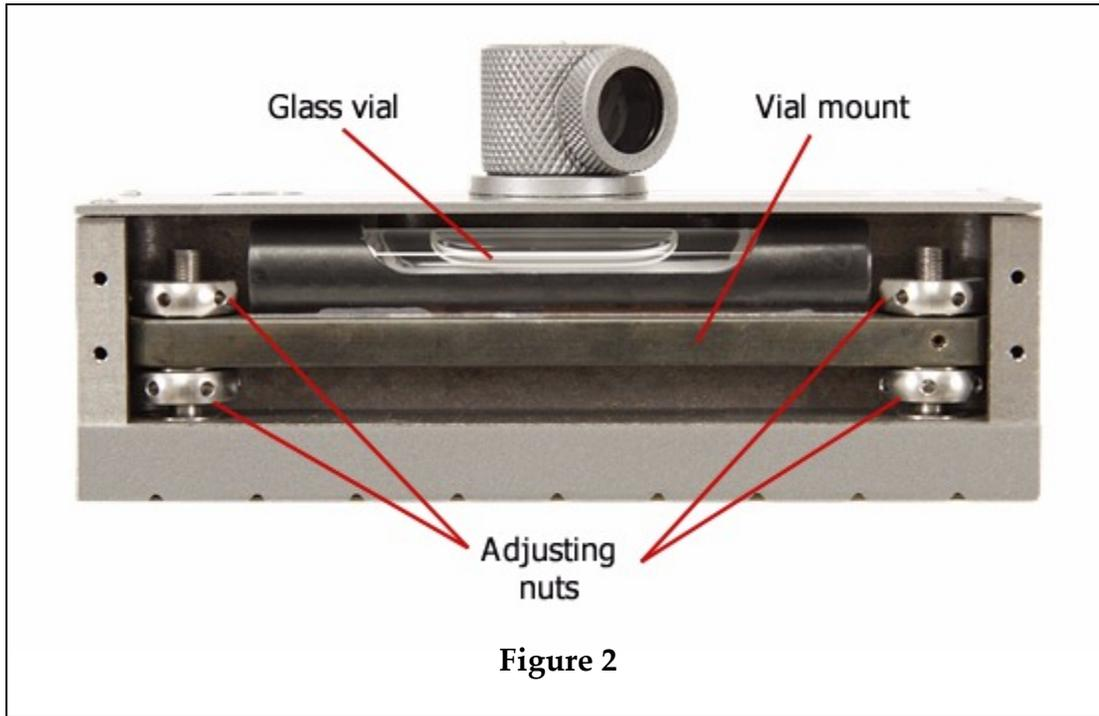
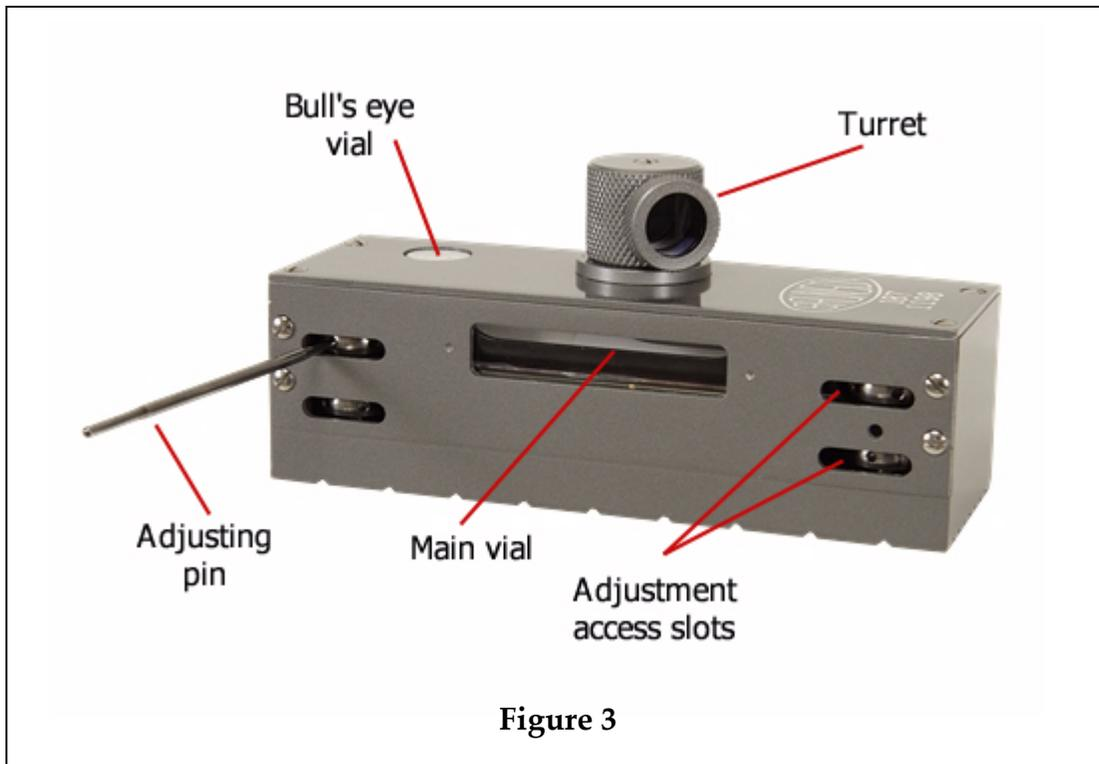

Figure 2
Figure 3
8. Remove the other half of the error by adjusting the vial itself. This is accomplished as follows. On one side of the unit, the vial itself is visible through a window. The vial is held in place by opposing nuts on each of the vial mount. (See Figure 2, with cover removed.) Moving the nuts up or down on the appropriate end of the vial adjusts the location of the bubble. The cover on this side of the unit has four elongated slots, which give access to the vial adjustment nuts. (See Figure 3.) To make adjustments, use the adjusting pins provided. Follow these steps to bring the vial into proper